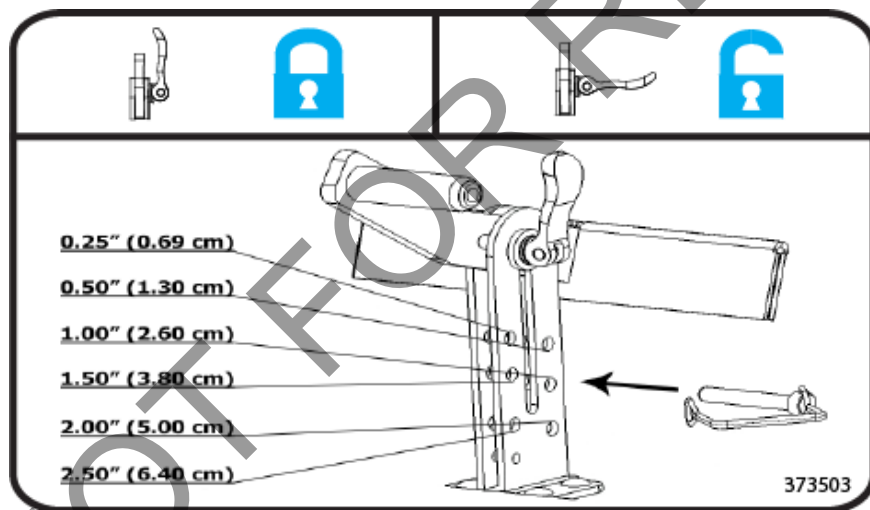

Fig 2.
1. Choose a depth of cut. See instruction label on the unit (see *Fig. 2*). Note: Sod should be cut leaving a minimum amount of dirt (1/4"-3/8") attached to the roots. This minimizes its weight for removal and encourages faster growth when reused.